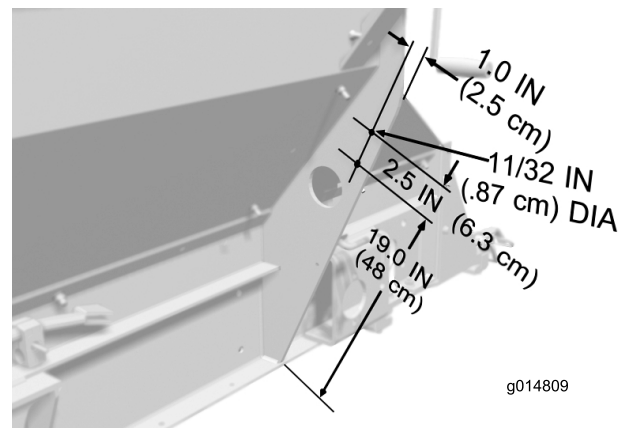

Figure 3
5. Using the dimensions shown in Figure 3, locate mark and drill (2) 11/32 inch (.87 cm) diameter holes in the left gusset plate of the hopper. Repeat the procedure on the right gusset plate of the hopper.